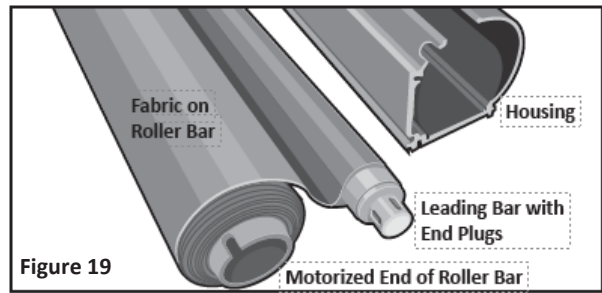

Figure 19
29. Orient the leading bar so that you can slide the non-motorized end of the roller bar into the housing. See **Figure 19**.